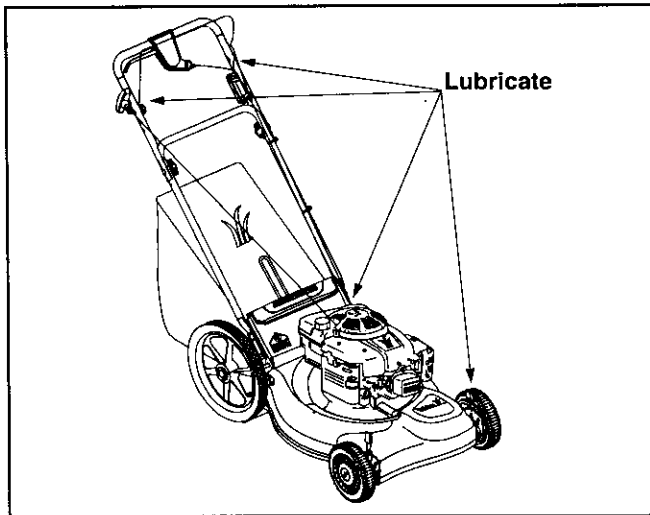

Figure 12
blade control must operate freely in both directions. See Figure 12.
**Wheels:** Lubricate the wheels at least once a season with light oil (or motor oil). If the wheels are removed for any reason, lubricate the surface of the axle bolt and inner surface of the wheel with light oil. See Figure 12.